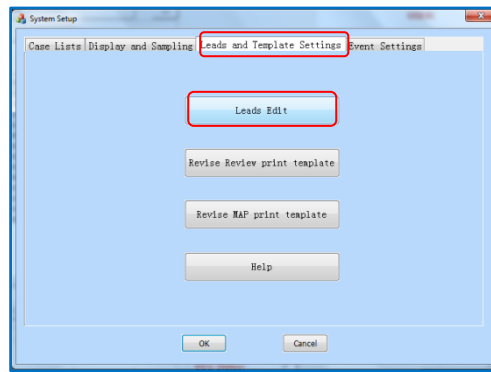
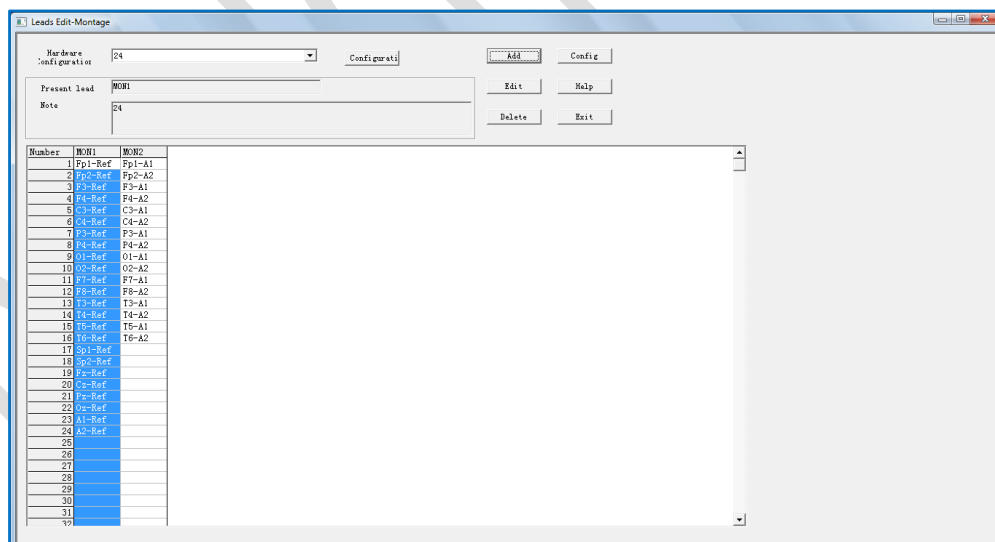

Fig 2-2 System Setup
Fig 2-3 Leads Edit
- 2 Click **"Setup"** button at lower right to open the system setup interface (See Fig. 2-2), and then click **"Leads Edit"** button under **[Leads and Template Settings]** tab (third tab) to open the leads edit interface (Fig 2-3).
- 1 EEG leads can be configured from the Leads Edit/Montage Interface (See Fig. 2-3) accessible from the system setup. The configurations may differ slightly based on the EEG type selected and the inclusion of multi-parameters.
- 11 The new set of leads will be added into the Fig 2-3 interface under the selected hardware configuration plan. Click on this lead mode to select it, and the lead mode can then be modified in a similar fashion by clicking "Edit" button.